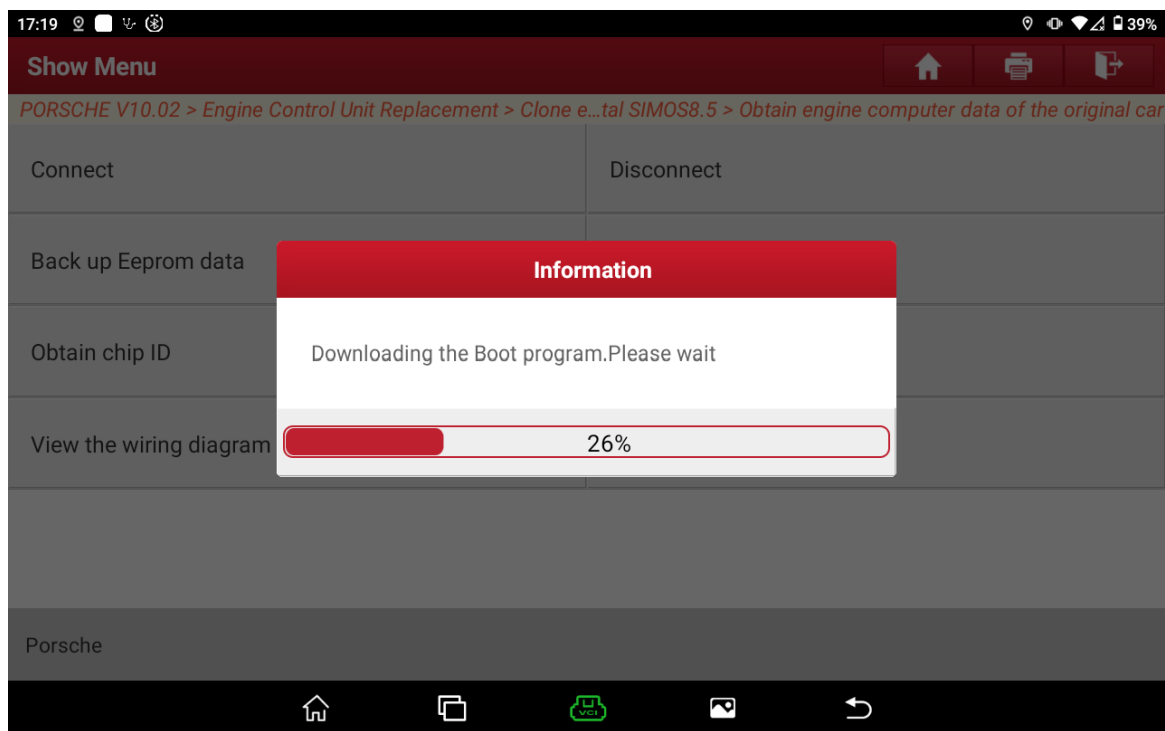
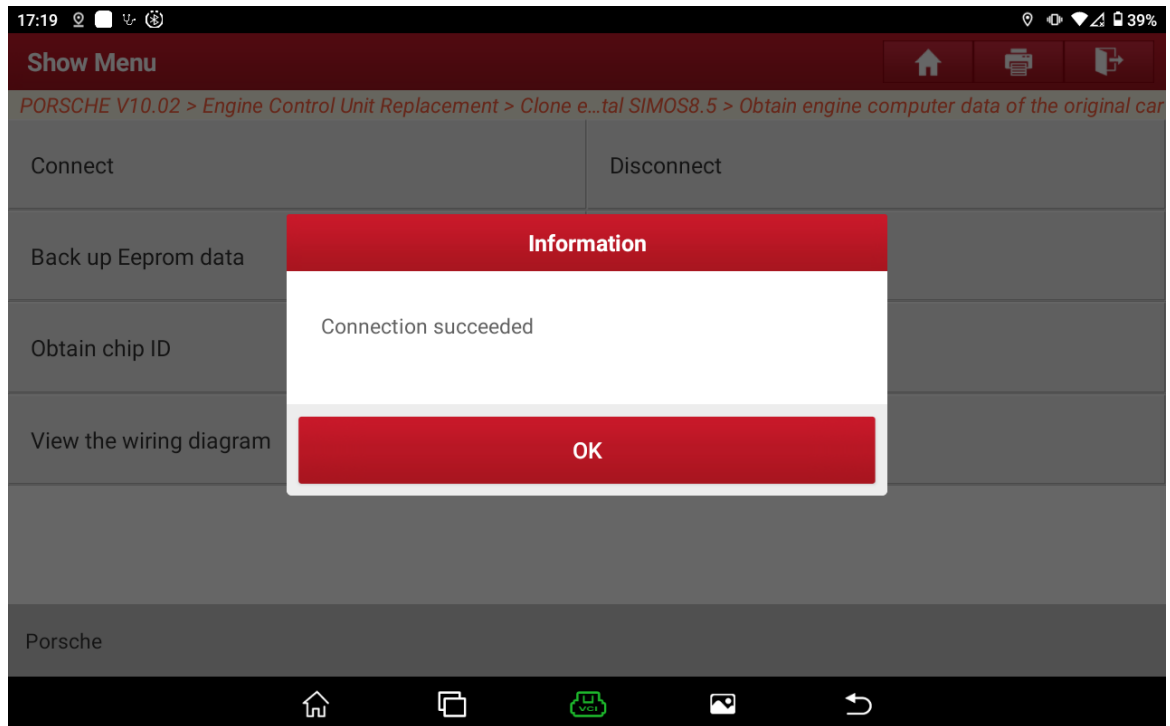

Figure 4
Figure 5
- Choose [Connect] to enter the BENCH mode, as shown in Figure 4 and Figure 5.